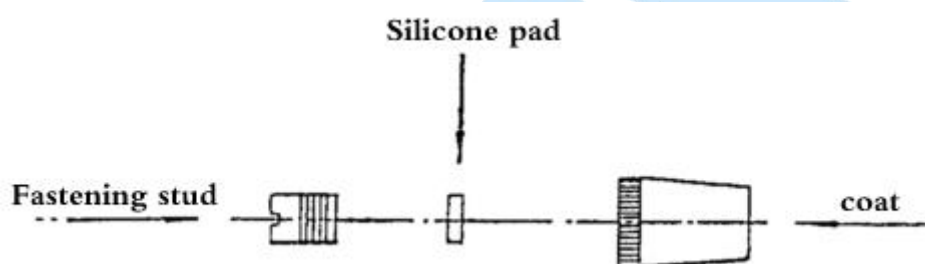

Figure 3
2) the silica gel into the drying tube, do not pay attention to the silica gel powder. Then the sample injection port plug installed (see Figure 3).